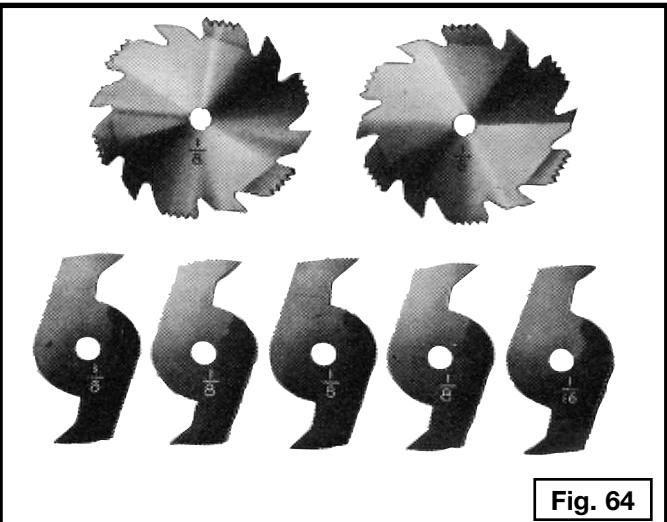
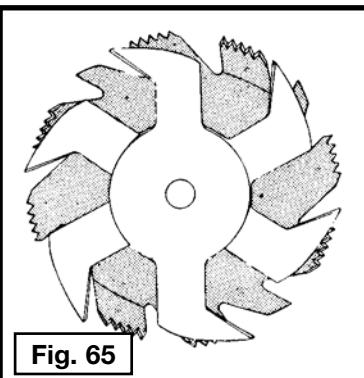
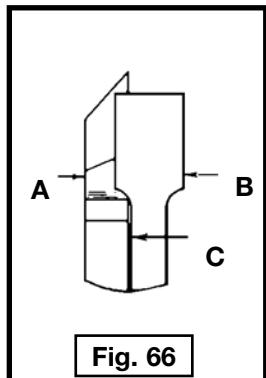

Fig. 64
Fig. 65
Fig. 66
Dadoing is cutting a rabbet or wide groove into the workpiece. Most dado head sets are made up of two outside saws and four or five inside cutters, (Fig. 64). Various combinations of saws and cutters are used to cut grooves from $1/8"$ to $13/16"$ for use in shelving, making joints, tenoning, grooving, etc. The cutters are heavily swaged and must be arranged so that the teeth do not hit each other during rotation. The heavy portion of the cutters should fall in the gullets of the outside saws (Fig. 65). The saw and cutter overlap is shown in Fig. 66 - (A) being the outside saw, (B) an inside cutter, and (C) a paper washer or washers, used as needed to control the exact width of groove. A $1/4"$ groove is cut by using the two outside saws. Position the teeth of the saws so that the raker on one saw is beside the cutting teeth on the other saw.